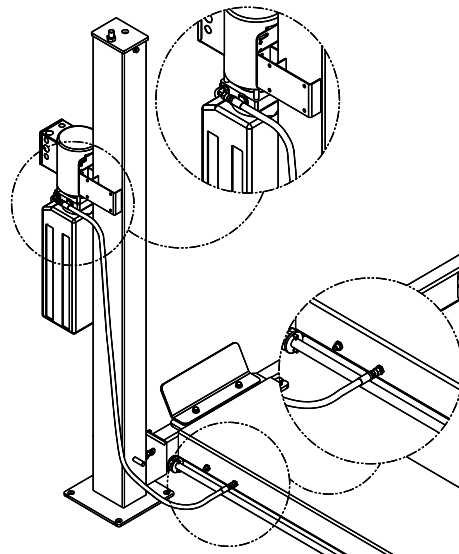

Fig 13 – Supply Line, Front
- 31) For installs on the front of the column (Fig 13), rout the power unit supply line to the bulkhead shown below. Attach the 90 degree fitting at a slight angle downward and secure the hose to the fitting.